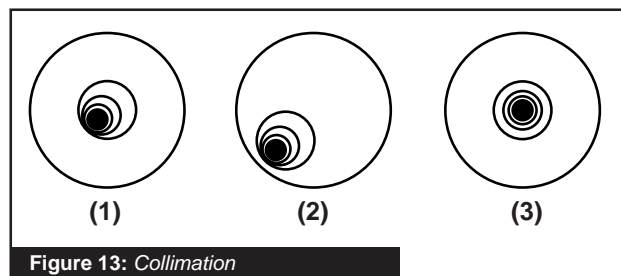

Figure 13: Collimation
2. While looking at the defocused star image, notice which direction the darker shadow is offset in the ring of light or notice which part of the ring is the thinnest (Pg. 41 Fig. 13, 1). Place your index finger in front of the telescope so that it touches one of the collimation set screws. You will see the shadow of your finger in the ring of light. Move your finger around the edge of the black plastic secondary mirror support until you see the shadow of the finger crossing the thinnest part of the ring of light. At this point, look at the front of the telescope where your finger is aiming. It will either be pointing directly at a set screw, or it will be between two set screws aiming at the set screw on the far side of the black plastic secondary mirror support. This is the set screw that you will adjust.
3. Using the Arrow keys at the slowest slew speed, move the defocused image to the edge of the eyepiece field of view (Pg. 41, Fig. 13, 2), in the same direction as the darker shadow is offset in the ring of light.
6. When you bring the image to center (Pg. 41, fig. 13, 3), carefully examine the evenness of the ring of light (concentricity). If you find that the dark center is still off in the same direction, continue to make the adjustment in the original turning direction. If it is now off in the opposite direction, you have turned too far and you need to turn in the opposite direction. Always double check the image in the center of the field of the eyepiece.